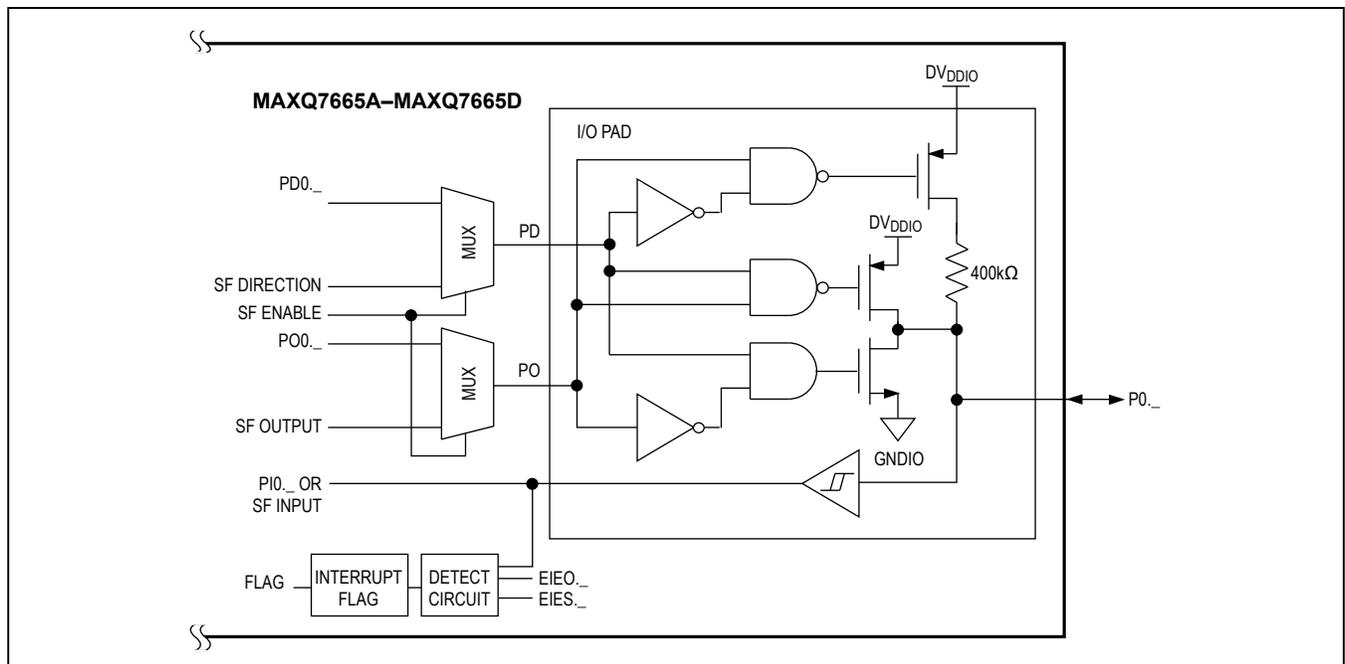

Figure 13. Digital I/O Circuitry
- All I/Os contain an additional special function, such as a logic input/output for a timer channel. Selecting an I/O for a special function alters the port characteristics of that I/O (refer to the *MAXQ7665/MAXQ7666 User’s Guide* for more details). Figure 13 illustrates the functional blocks of an I/O.